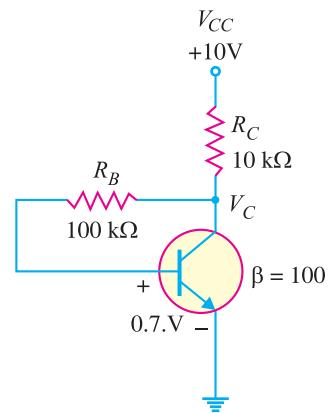

Fig. 9.23
**Example 9.18.** Find the d.c. bias values for the collector-feedback biasing circuit shown in Fig. 9.23. How does the circuit maintain a stable Q point against temperature variations ?
**Stability of Q-point.** We know that  $\beta$  varies directly with temperature and  $V_{BE}$  varies inversely with temperature. As the temperature goes up,  $\beta$  goes up and  $V_{BE}$  goes down. The increase in  $\beta$  increases  $I_C (= \beta I_B)$ . The decrease in  $V_{BE}$  increases  $I_B$  which in turn increases  $I_C$ . As  $I_C$  tries to increase, the voltage drop across  $R_C (= I_C R_C)$  also tries to increase. This tends to reduce collector voltage  $V_C$  (See Fig. 9.23) and, therefore, the voltage across  $R_B$ . The reduced voltage across  $R_B$  reduces  $I_B$  and offsets the attempted increase in  $I_C$  and attempted decrease in  $V_C$ . The result is that the collector-feedback circuit maintains a stable Q-point. The reverse action occurs when the temperature decreases.